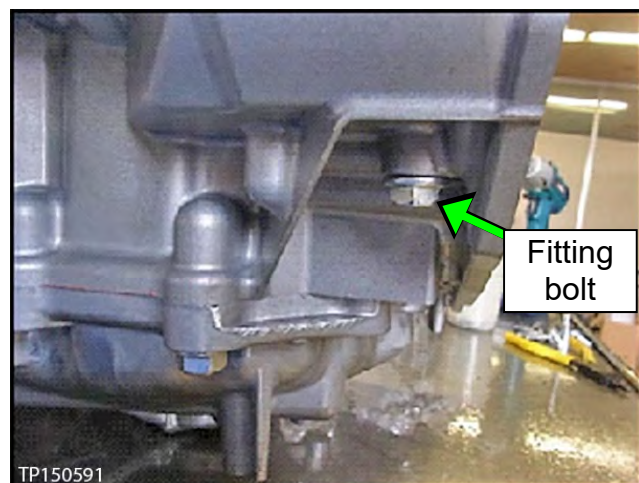

Figure 61
43. Install the fitting bolt finger tight (Figure 61).